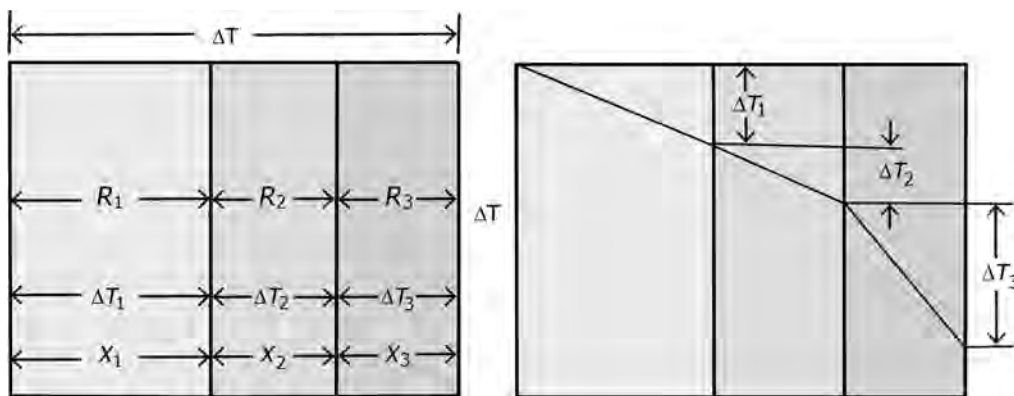

FIGURE 8.9 Multilayer slab.
- **Multilayer flat slab:** One-dimensional heat conduction—Figure 8.9 shows a series of three flat slabs in thermal contact with each other.